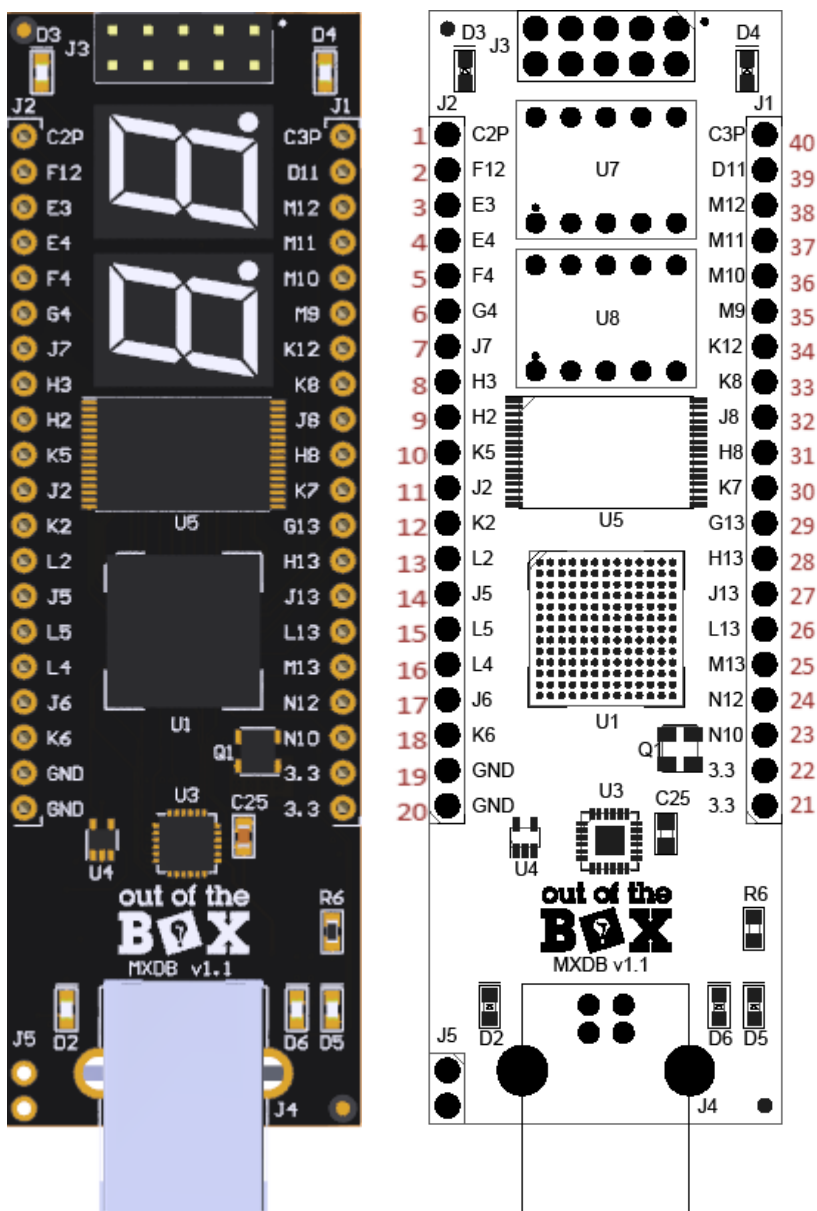

Figure 13: PLD PCB top layer with available FPGA pins
- To make sure you do **NOT** accidentally assign pins to the wrong location, use only the pins shown Figures 13 and 14. Do **NOT** use the clock pins for general purpose inputs or outputs, e.g., C2P (i.e., CLK2P, MAX 10 pin G9) and C3P (i.e., CLK3P, MAX10 pin F13); use these pins only for clock inputs.